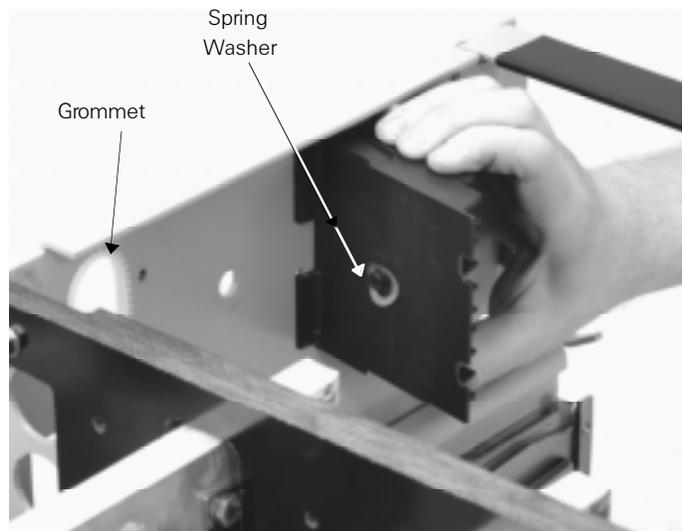

Figure 4. Installing the Secondary Disconnect with spring washer into a Type 1 enclosure.
1. Install the 6.38-inch-long grommet into the oblong wire exit hole, as shown in Figure 4.
2. Attach the Secondary Disconnect block to the wall of the draw-out enclosure by hooking the front two mounting feet of the Disconnect through the rectangular holes in the enclosure, while keeping the spring washer balanced on the post, as illustrated in Figure 4.